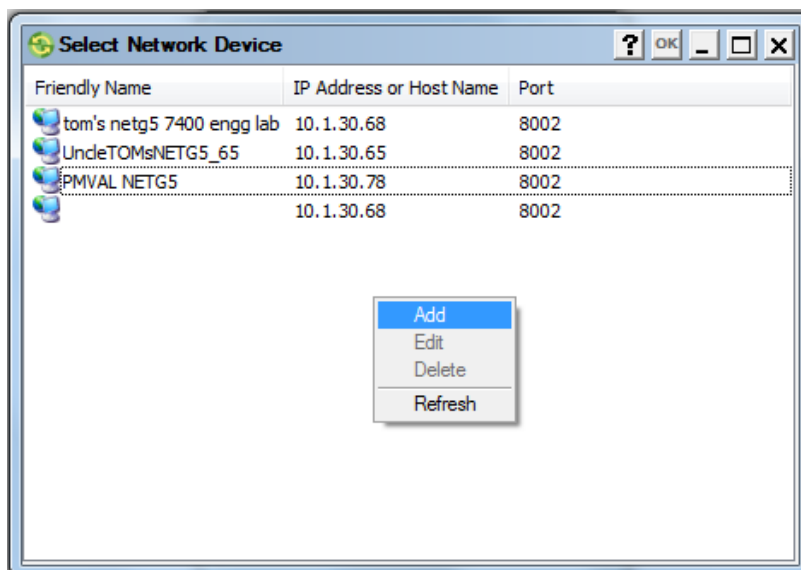

Figure 12: Select Add to Add a Device
4. Right-click in the **Select Network Device** screen, and click **Add** (Figure 12). The **Network Connection** screen appears.